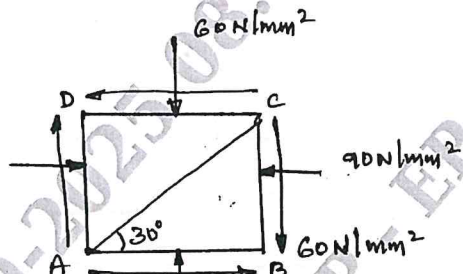

Fig.Q4(a)
- 4 The state of stress in a two dimensionally stressed body is as shown in Fig.Q4(a). Determine